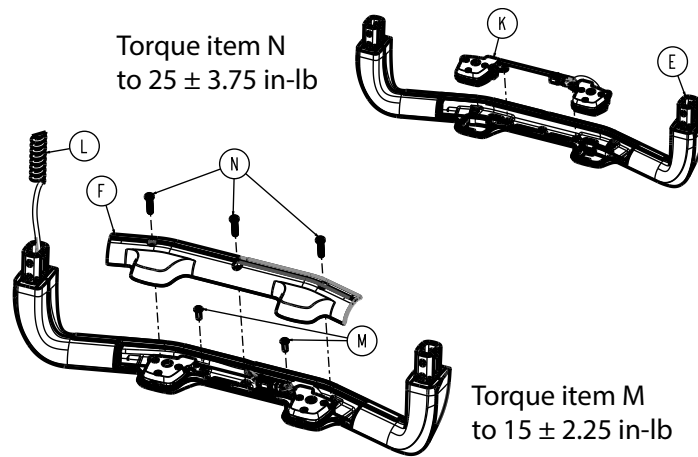

Figure 29 –
4. Using a T15 Torx driver, remove the three pan head machine screws (N) that secure the grab bar cover (F) to the grab bar overmold (E) (Figure 29). Discard the screws.
**Note** - Using a torque wrench, torque the supplied pan head machine screws (N) to  $25 \pm 3.75$  in-lb when you reinstall.
6. Using a T15 Torx driver, remove the two button head cap screws (M) that secure the UI module (K) to the grab bar (Figure 29). Discard the screws.
**Note** - Using a torque wrench, torque the supplied button head cap screws (M) to  $15 \pm 2.25$  in-lb when you reinstall.
8. Using a pick, disconnect the UI module (K) and UI coil cable connector (L) (Figure 29). Remove and discard the UI module.